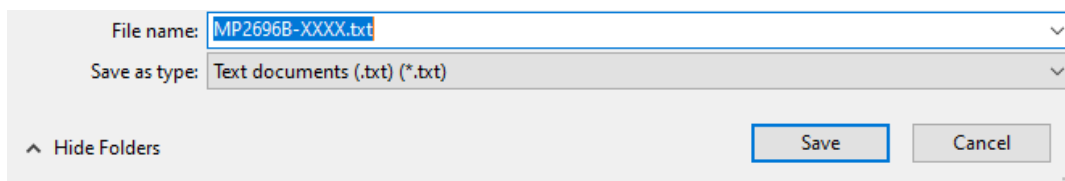

Figure 11: New Configuration Saved as a “.txt” File
5. Select a location for the exported file, then click the “Save” button. The new configuration should save as a “.txt” file (see Figure 11).